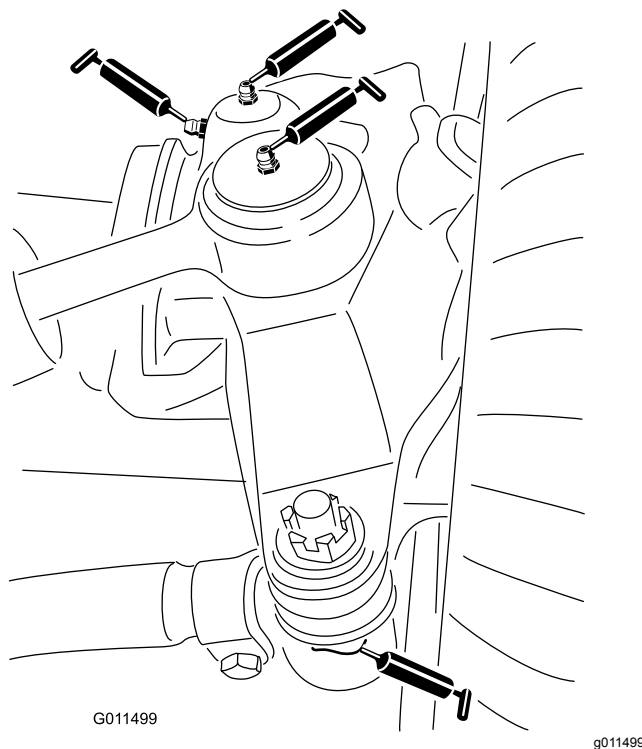

Figure 58
- 2 steering-cylinder-ball joints (Figure 58)
- 2 tie-rod-ball joints (Figure 58)
- 2 king-pin bushings (Figure 58).